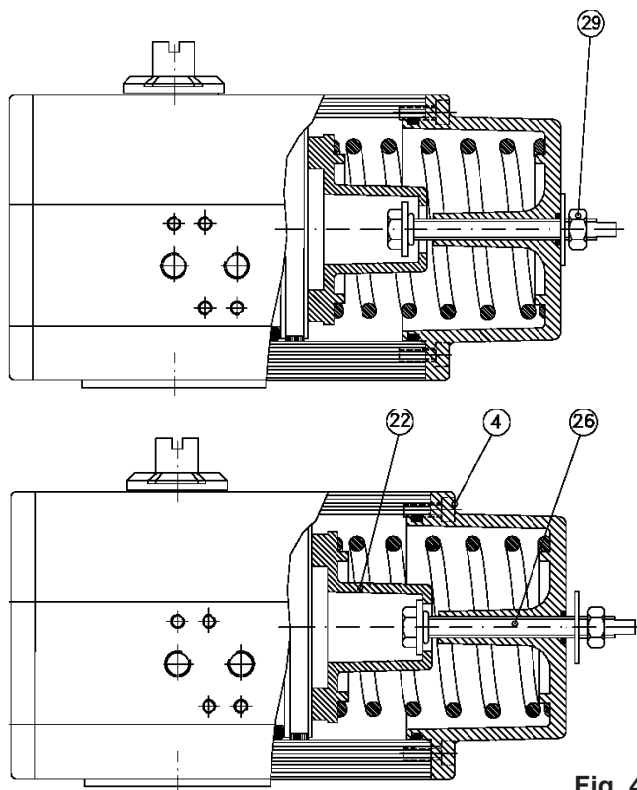

Fig. 4
2. Check that the springs can press the piston into starting position according to figure 4.
4. Loosen the lock nut (29).
5. Turn the tensioning screw (26) anti-clockwise until it lies lightly against the spring guide (22).
6. Dismantle the spring housing by loosening the screws (4).